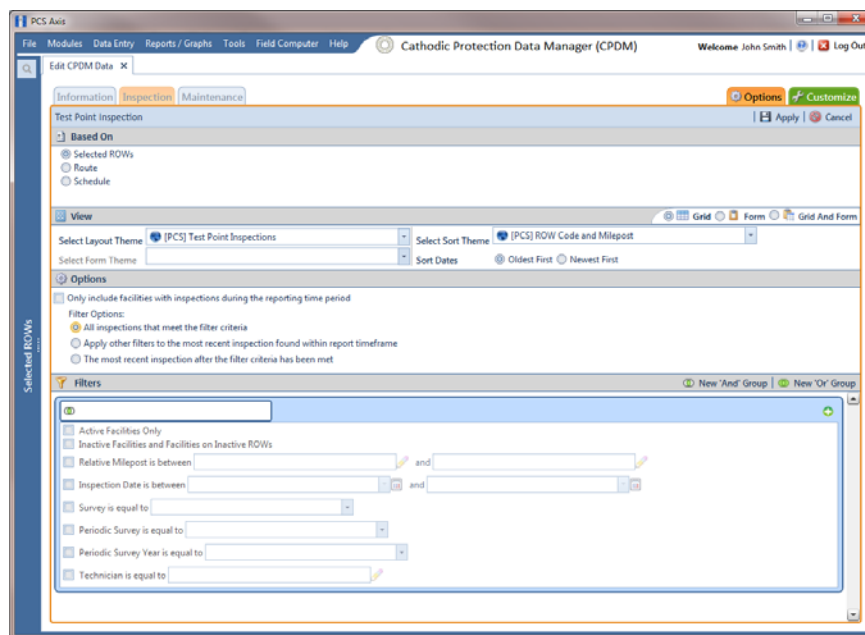

Figure 7-43. Options/Inspection Grid
- Click the **Options** tab  to open the *Options* page (Figure 7-43).